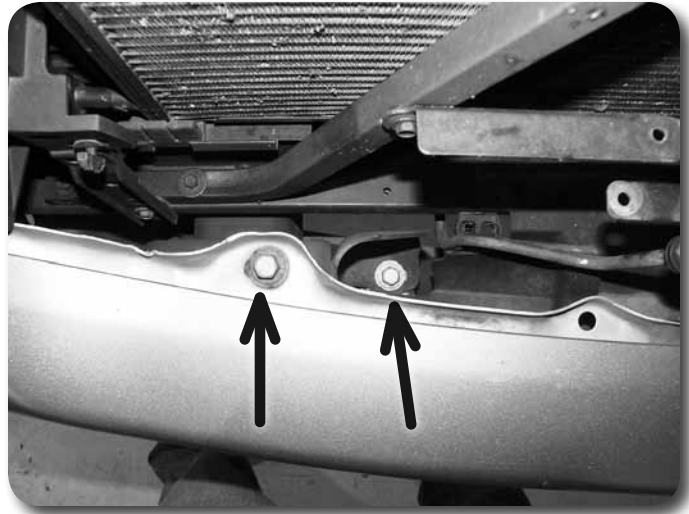

Figure 9
13. Since the grill was removed, the four inside bumper bolts (two on each side) can be accessed from above the bumper Figure 9. While supporting the bumper, remove the four bolts and separate the bumper from the vehicle. Save bumper mounting bolts.